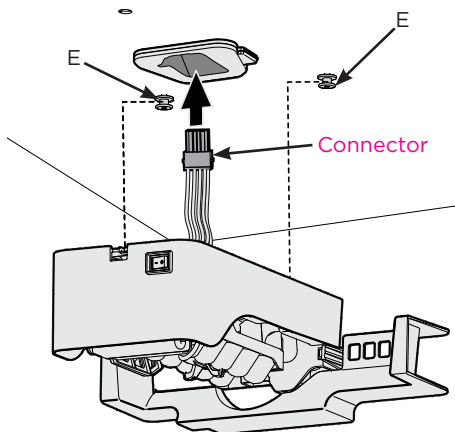

Figure 2
6. Push the Ice Maker and bracket assembly toward the rear of the freezer compartment to seat the keyhole slots firmly onto the shoulder screws (See Figure 2).